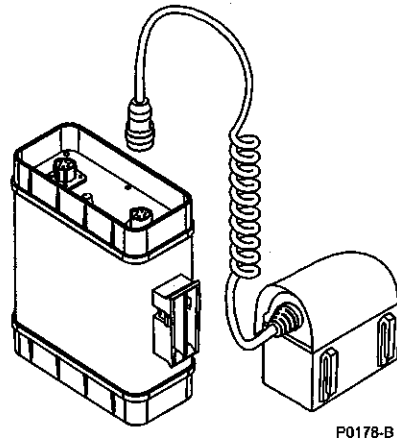

Figure 8 - Relic Hawk Battery Pack
4.4 Battery Pack (see Figure 8)